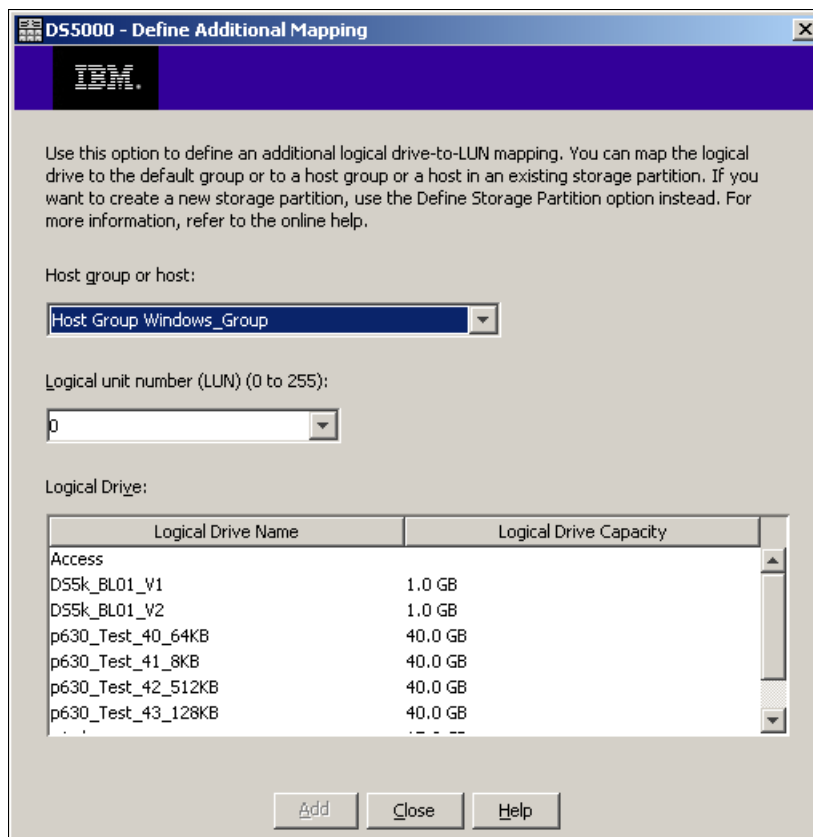

Figure 3-84 Define Additional Mapping
2. In the Define Additional Mapping window, select the logical drive you want to map to this host group or host and assign the correct LUN number, as shown in Figure 3-84.